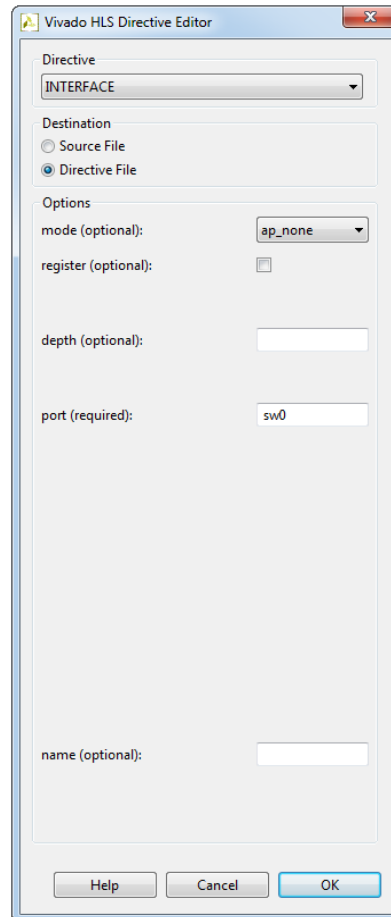

Figure 2.41: Vivado HLS Directives Editor dialog box with necessary settings
- click **OK**, see Figure 2.41.